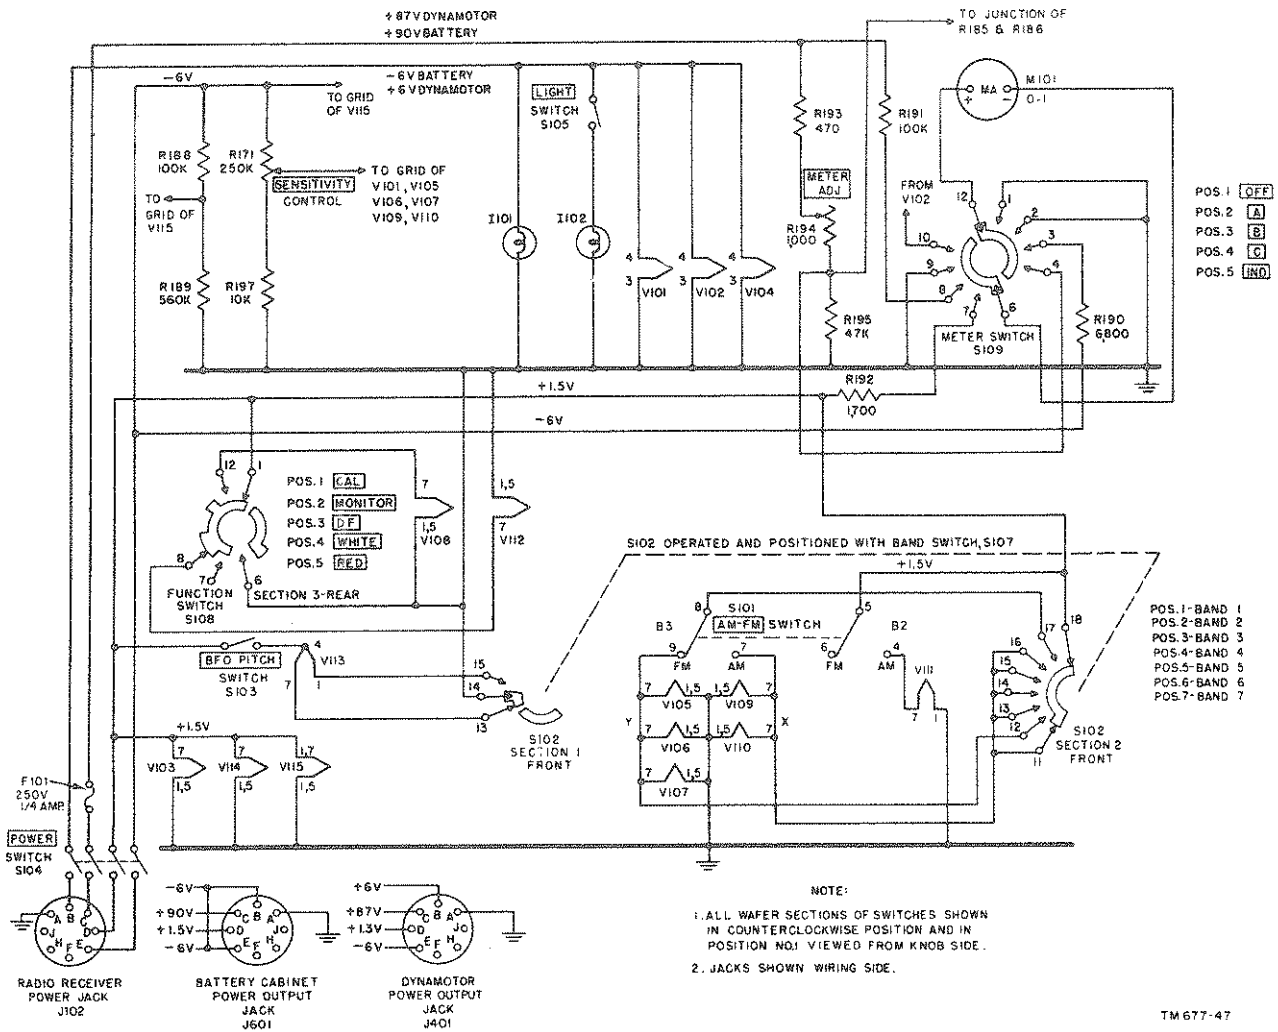

Figure 47. Radio Receiver R-395/PRD-1, diagram of power control circuits.
84. Power and Light Switches (fig. 47)
a. Figure 47 is a simplified power distribution diagram of the receiver. This diagram is very useful in locating troubles in the equipment.
- (1) A dc filament voltage of 6 volts (positive from the dynamotor-power supply and negative from the battery box) is applied to the filaments of I 101, V101, V102, and V104. If LIGHT switch S105 is closed, this filament voltage is also applied to the filaments of I 102. The path is from pin B of power jack J102, through S104 and through the filaments (all connected in parallel) to ground.
- (2) A dc filament voltage of +1.5 volts is applied from pin D of J102 through S104, through the parallel filaments of V103,